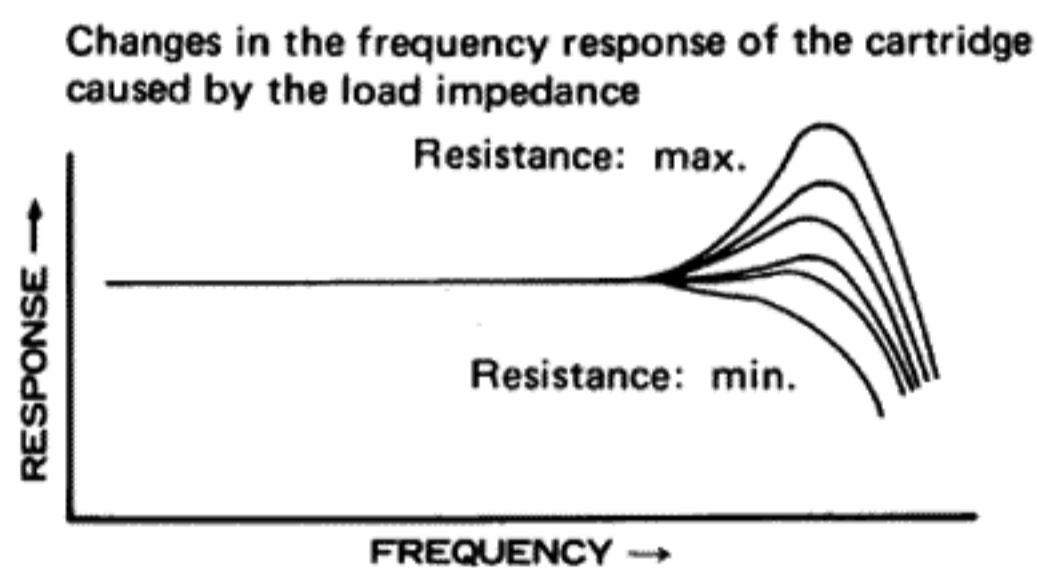
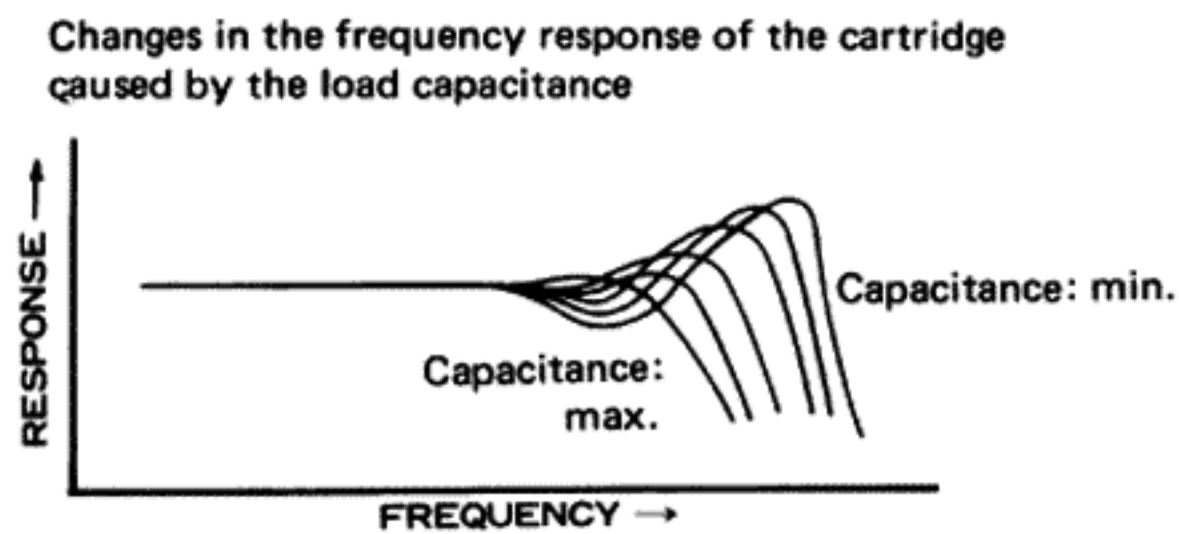

Fig. 4
Fig. 5
As shown in Fig. 4, typical moving magnet (MM) cartridges have resonance peaks at high frequencies. However, the height of the peaks can be varied by changing the load impedance ($R\Omega$). The peaks increase as the impedance is increased. In addition, the resonance frequency (center of peak frequency) can be varied by changing the load capacitance (CpF), as is shown in Fig. 5. If the capacitance is increased then the resonance frequency is lowered and the peaks are increased.
One example is shown in Fig. 5 where the frequency response in the high range varies. Adjust both CARTRIDGE LOAD switches while you are listening to the record.